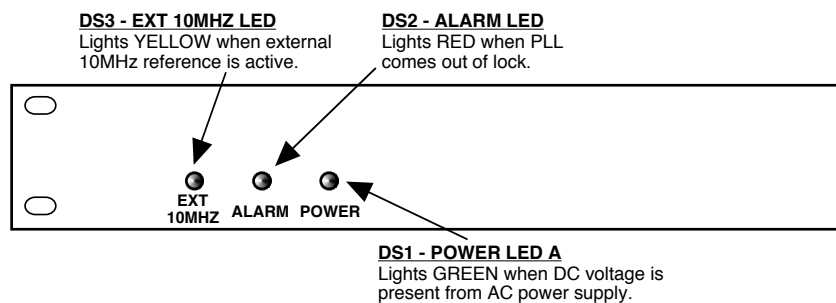

FIGURE 2.2 2116-172192 Front Panel Controls and Indicators
- 4.) Be sure DS1 (green, DC Power) is on and DS2 (red, Alarm) is off (Figure 2.2).
- 6.) If EXT is selected or AUTO is selected and there is a 10MHz, 0 dBm signal at J2, check that DS3 (yellow, Ext 10MHZ) is on (Figure 2.2).